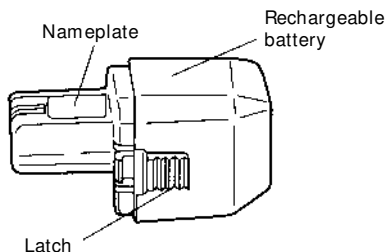

Fig. 2
2. Insert the battery into the charger. Position the battery so that the nameplate faces toward the ventilation slots of the charger and push in the battery until it contacts the bottom plate. (See **Figs. 2 and 3.**)